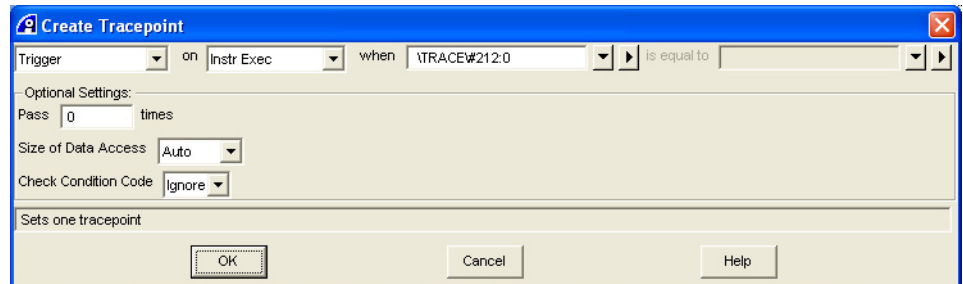

Figure 7-5 Create Tracepoint dialog box
2. Select **Create Tracepoint...** from the context menu to display the Create Tracepoint dialog box. Figure 7-5 shows an example: